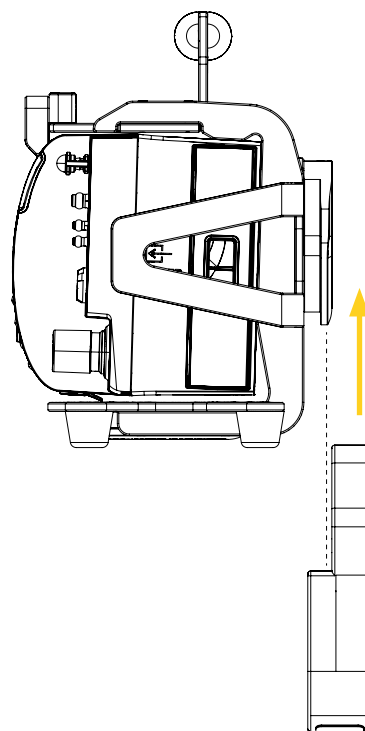

Figure 16: Removing the medical device from the mounting system vertically
1. Press and hold the quick-release button of the mounting system, then slide the micro disc located under the mounting bracket of the medical device out of the mounting system horizontally (Figure 15) or the anti-rotation micro disc located at the back of the mounting bracket from the mounting system vertically (Figure 16).